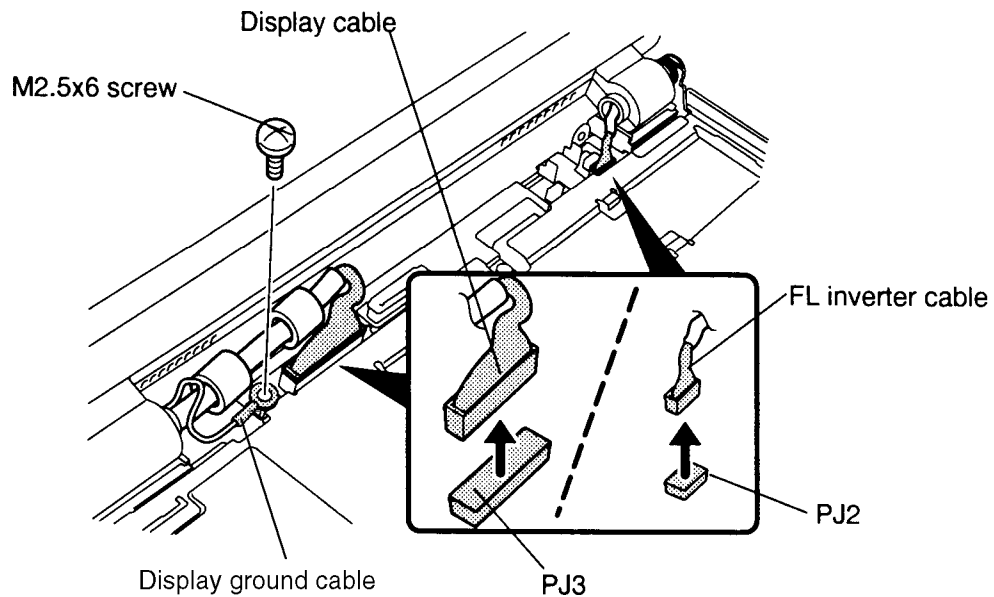

Figure 4-22 Removing the display, FL, and ground cables
4. Remove the tape over the display cable and disconnect the **display cable** from **PJ3** and **FL inverter cable** from **PJ2** on the upper system board (Figure 4-22).
5. Remove the **M2.5x6 screw** securing the **display ground cable** (Figure 4-22).
4. Turn the computer again so the front faces you and secure the **display ground cable** to the upper system board with one **M2.5x6 screw** (Figure 4-22).
5. Connect the **display cable** to **PJ3** and **FL cable** to **PJ2** on the upper system board (Figure 4-22). Replace the tape over the display cable connector.